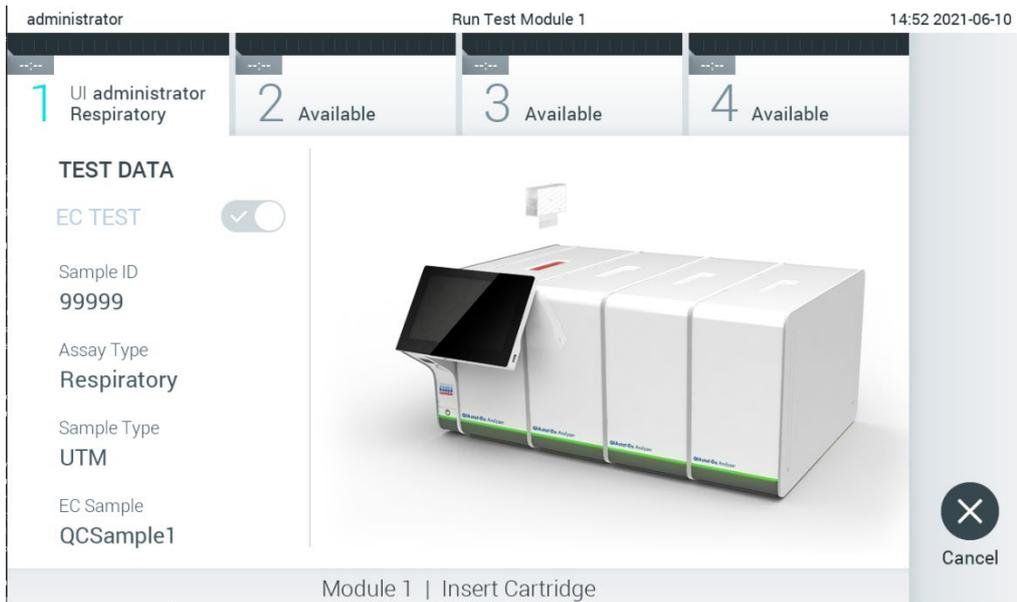

Figure 94. Inserting QIAstat-Dx assay cartridge into QIAstat-Dx Analyzer 1.0.
- Make sure that both sample lids of the swab port and main port of the QIAstat-Dx assay cartridge are firmly closed. When the cartridge entrance port on the top of the QIAstat-Dx Analyzer 1.0 automatically opens, insert the QIAstat-Dx assay cartridge with the bar code facing to the left and the reaction chambers facing down (Figure 94).